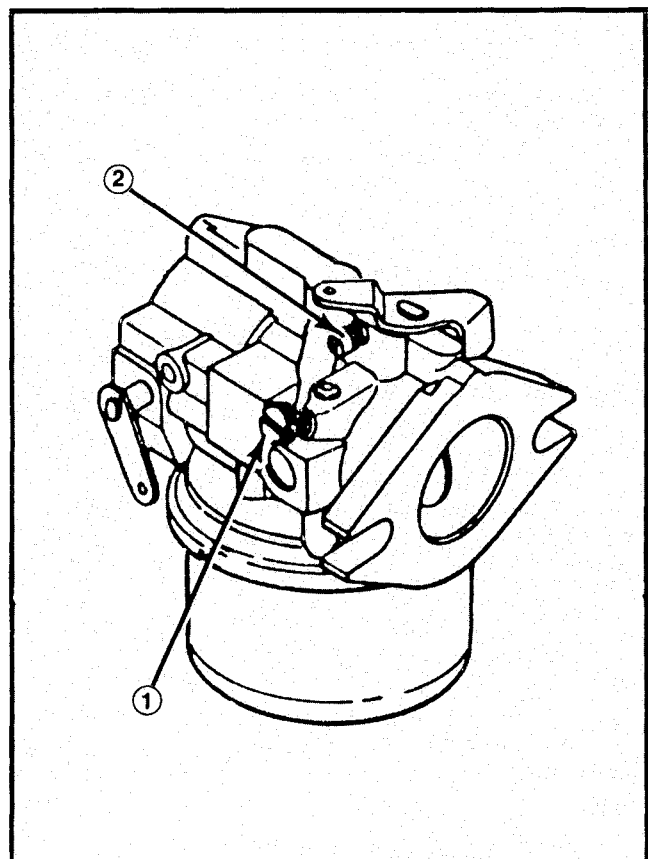

Figure 23
1. Idle fuel adjusting screw (Fig. 23) — Close screw by gently rotating it clockwise. Open screw by rotating it 1 - 1-1/4 turns counterclockwise.
3. Idle Speed Setting (Fig. 23) — Run engine at half-throttle to SLOW and set engine speed to 1750 RPM by turning the idle speed adjusting screw clockwise or counterclockwise.